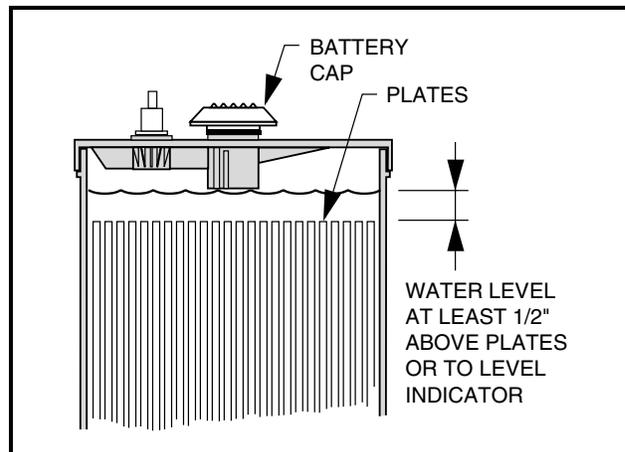

FIGURE 23
2. The water level in the batteries should be checked weekly (**See Figure 23, Page 29, for proper level**). Add water only after charging unless the water level is below the top of the plates. In this case, add just enough water to cover the plates, charge and then check the level again. Never charge batteries if plates are exposed above water level. For best battery life, add only distilled water.